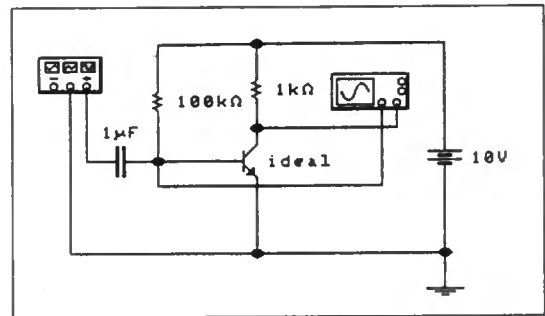

Fig. 4.34 Single-stage Class-A common emitter amplifier (Assignment 4.3).
6. Connect the circuit shown in Fig. 4.34. Set the waveform generator and oscilloscope controls as shown in Fig. 4.35.